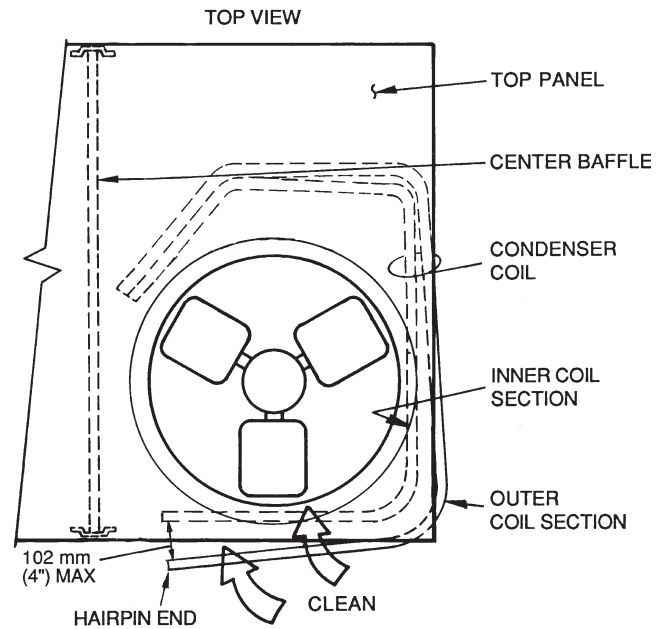

Fig. 12 — Separating Coil Sections
6. Remove fasteners holding coil sections together at return end of condenser coil. Carefully separate the outdoor coil section three to four inches. See Fig. 12.